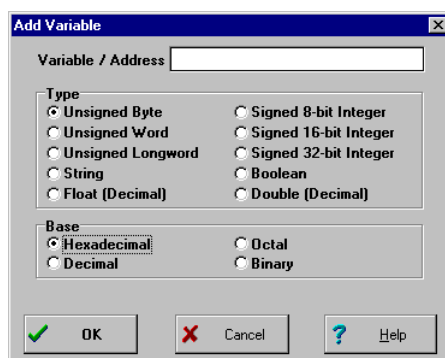

Figure 6-7. Add Variable Dialog
- **Add Variable:** Choose this option to open the *Add Variable* dialog (Figure 6-7) to add a variable or address to the current variable list. Select the variable type (size) and base.
specify the base in which variables are shown using the options in the *Add Variable* dialog (Figure 6-7). The default number format for the ICS05BW is hexadecimal.